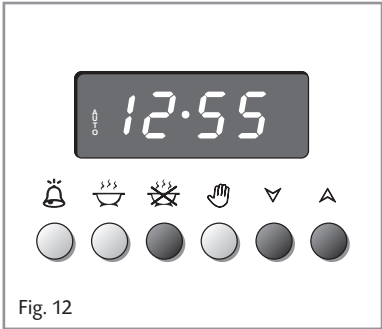

Fig. 12
- 2. Set the end of the cooking time by pressing the  button (the cooking time already added to the clock time will appear), and the  button (fig. 12); if you pass the desired time you may get back by pushing the  button. After this setting, the  symbol will disappear. If after this setting, the **AUTO** flashes on the display and a buzzer sounds, it means there was an error in the programming, that is that the cooking cycle has been superimposed on the clock. In this case, modify the end of cooking time or the cooking period itself by following again the above mentioned instructions.